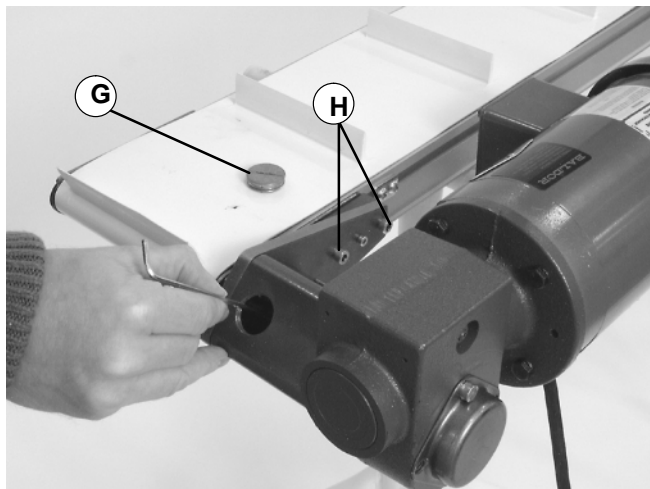

Figure 13
1. With a flat blade screwdriver, remove cap (G of Figure 13).
2. Loosen (2) set screws on the coupling.
3. Remove (2) motor mounting screws (H of Figure 13).